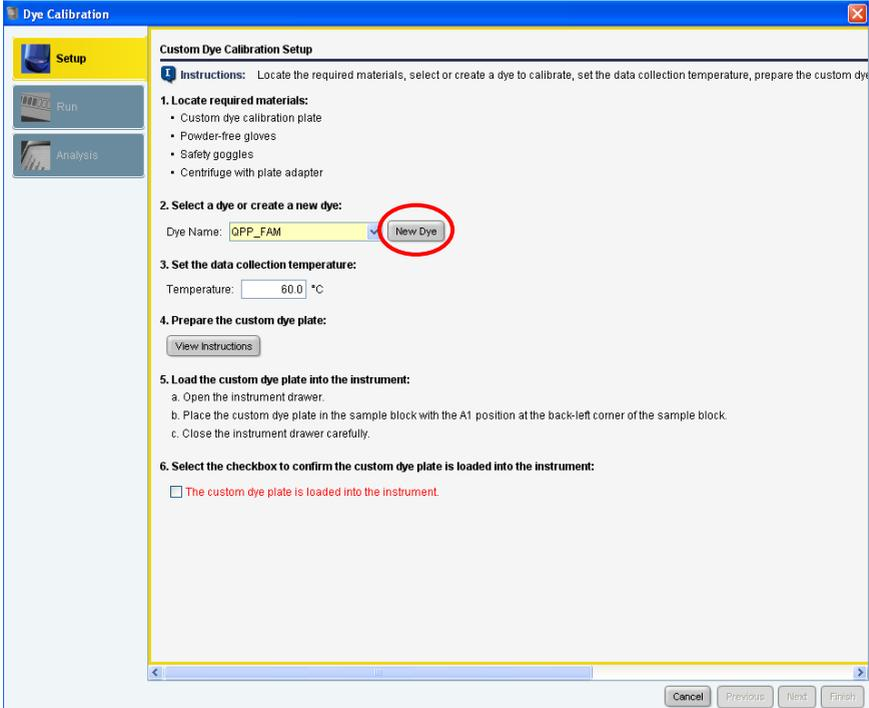

Figure 16. Selecting New Dye calibration.
4. Select **New Dye** in the **Dye Calibration** window (Figure 16).